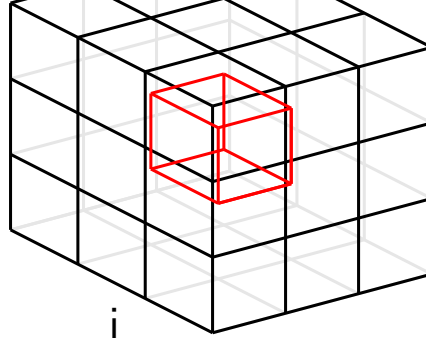

Figure 3: Cell with its neighbours
The angular parts proportionate as (13). Each cell as 26 neighbours (Fig. 3). The approximation is done by whole set of single subtractions from the cell in all directions.